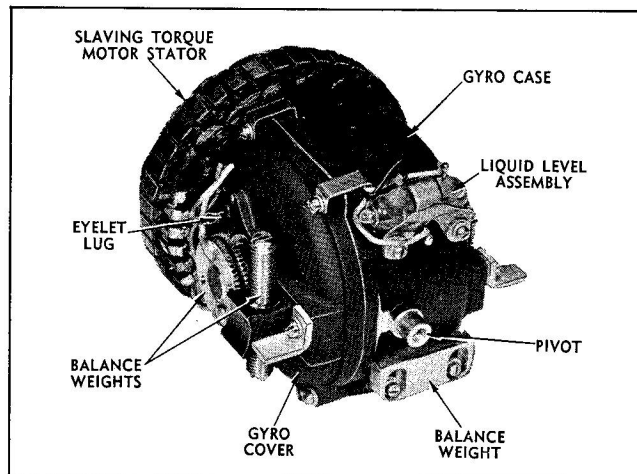

Figure 1-2 Gyro Assembly
(a) The Directional Gyro Control contains a gyro assembly (figure 1-2) which is mounted in a vertical (gimbal) ring. The vertical ring is mounted in the frame which, in turn, is attached to the base of the unit.
2. Gyro Assembly. (See figure 1-2.) The gyro assembly consists of a gyro housing and a three-phase induction motor operated from a 115-volt, 3-phase, 400-cycle a-c power supply. The rotor (squirrel cage) of the motor is the gyro. The rotor is mounted with two 34-B ball bearings (special grease prelubricated) in the gyro housing. The gyro spins at approximately 23,500 rpm with its axis horizontal. The gyro housing consists of the case and cover, plus two pivots (journals) for mounting in the vertical ring. The power is supplied to the gyro rotor through three eyelet lugs mounted in glass insulators in the cover. The gyro housing is mounted with two R-4SS5 ball bearings (oil-lubricated, shielded) in the vertical ring and is free to tilt within limits of  $\pm 85$  degrees from its normal position. The gyro is balanced by means of balance weights mounted on the gyro housing.
(1) The liquid level assembly (figure 1-2) consists of a glass tube partially filled with an